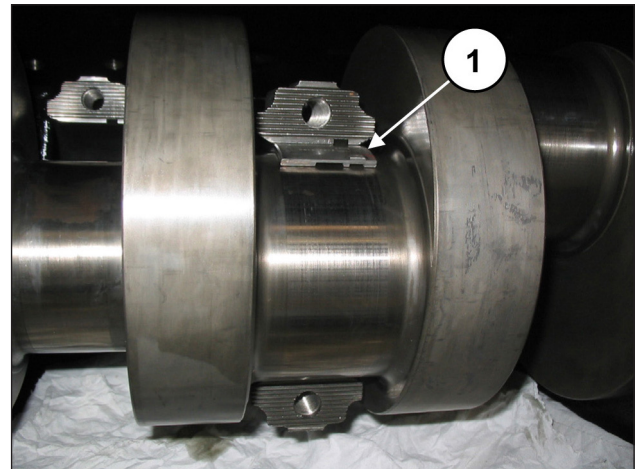

Fig. 59
Insert the upper half-conrod between the conrods and the shaft (pos. ①, Fig. 59).